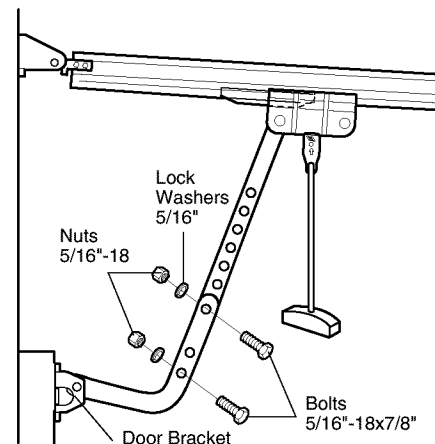

Figure 2
If your installation doesn't require vertical reinforcement but does need top and bottom fastening holes for the door bracket, fasten as shown in Figure 2.
• Figure 2: